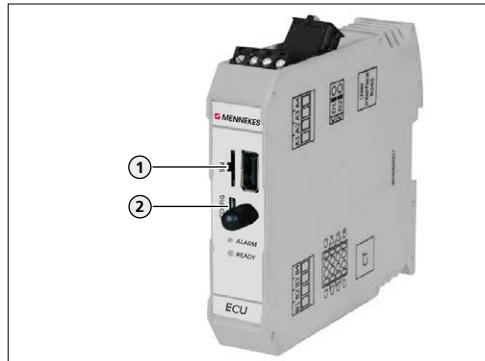

Fig. 14: Connections for the configuration on the ECU
- ▶ Connect end device (e. g. PC, laptop, mobile phone) und ECU with the provided USB cable. To do this use the micro-USB connection (2) of the ECU.
- ➔ "Fig. 14: Connections for the configuration on the ECU"